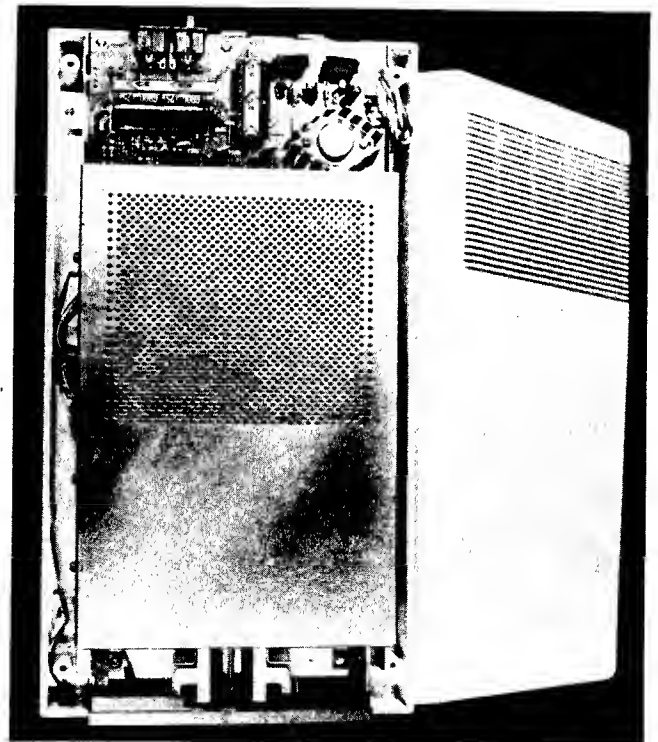

Fig. 5-16. Gently lift the drive cover housing off the drive mechanism.
7. Holding both halves of the drive case together, turn the drive right-side up. Gently lift the drive case top off the main drive mechanism case and set aside as shown in Fig. 5-16.
1. Disassemble the drive and set it on its side as shown in Fig. 5-16.